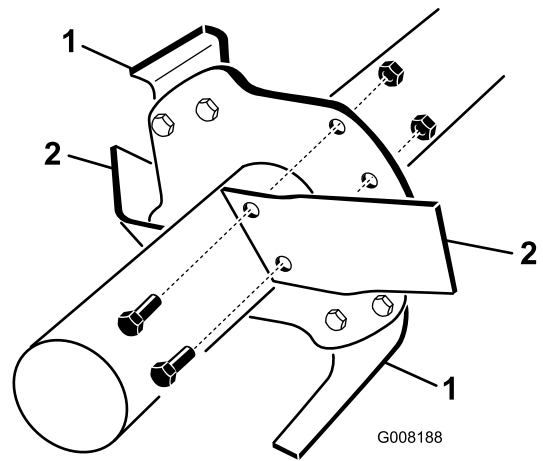

Figure 14
6. Remove old tines, 1 at a time, and install the new tines (Figure 14).